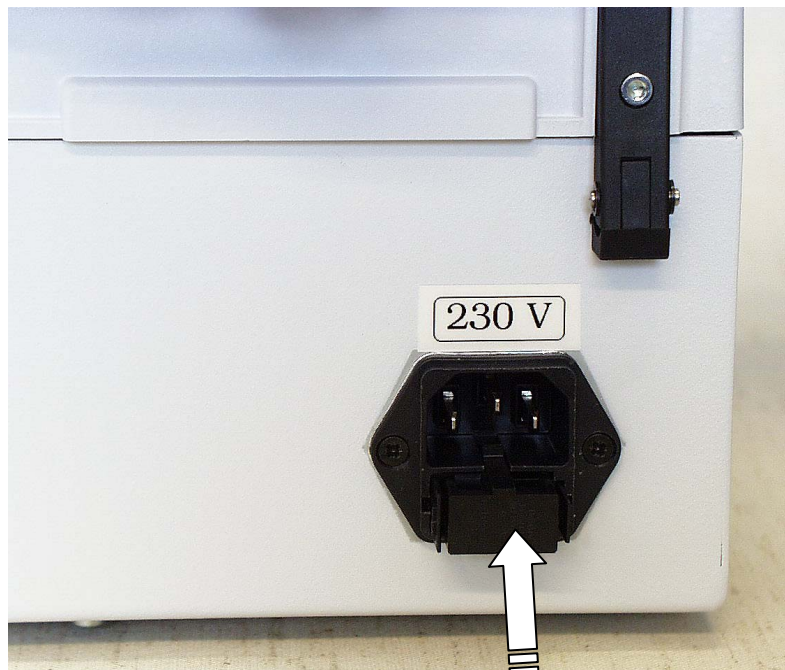

Fig. 7.4 Inserting the fuse holder cap
4. Replace the blown fuse with the same type and push the fuse holder cap back into its position (*Fig. 7.4*).